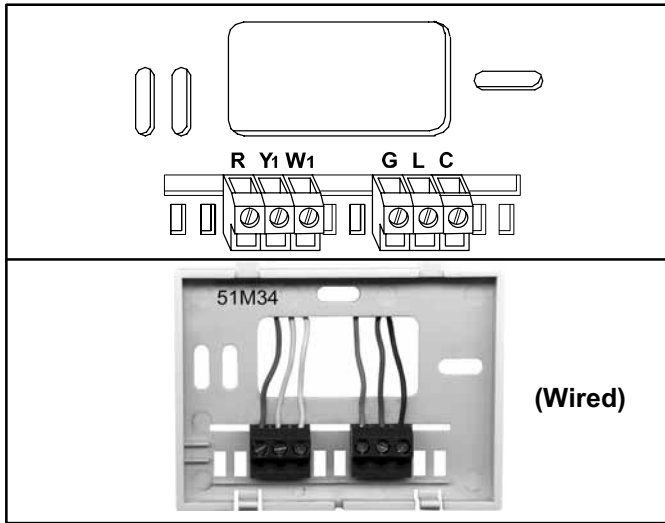

Figure 1. L3511C Terminal Strip
- L3511C - See table 1 and figure 1.